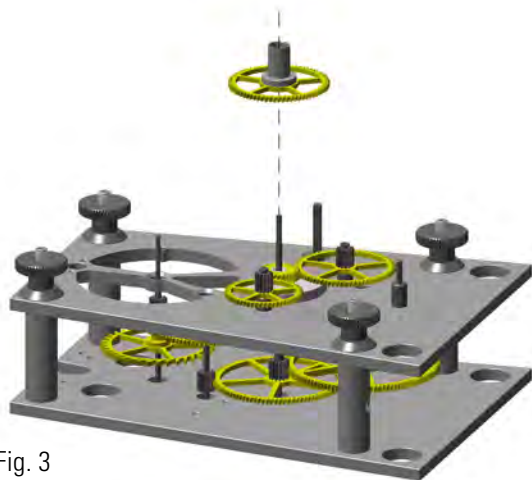

Fig. 3
1. Fitting the hour wheel with hour wheel pipe (see figure 3)